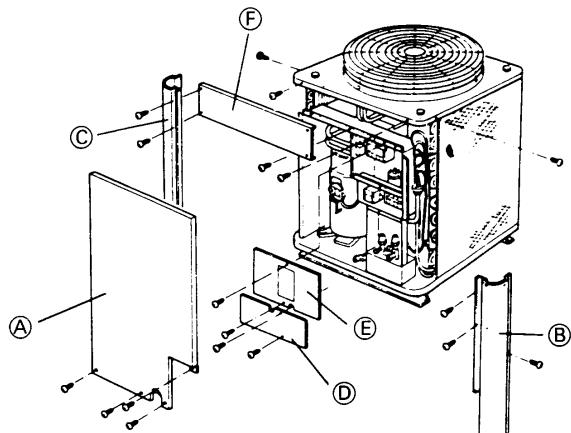

Fig. 6
- 3) Remove the mounting plate **(F)**. Fig. 6
- 1) Many wires have to be removed. When removing wires, carefully check the electric diagram on the rear side of the cover plate **D** Fig. 6